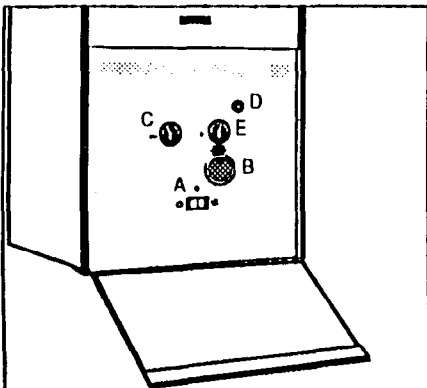
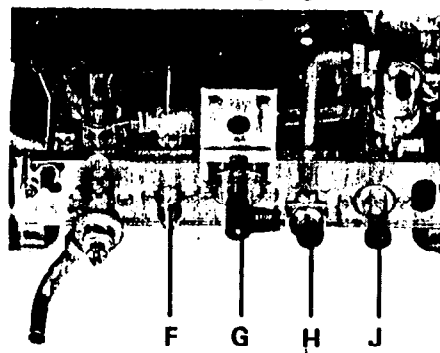

Fig. 1
Fig. 2
- 2) Turn the lever on the gas service tap to the left (G) (Fig. 2).
- 3) Set the selector switch (A) (Fig. 1) to the required position. To the left for hot water only or to the right for hot water + central heating.
- 4) Press the igniter button (D) (Fig. 1) Fully in.
- 5) If set to hot water + central heating check that the valve (J) (Fig. 2) is fully open (turn anti-clockwise).
This boiler is designed to give hot water at different temperatures and is fitted with a temperature regulator (F) (Fig. 2). This regulator is adjusted and set at the time of installation by the installer.
Set the selector switch to the centre position off (0) Turn off the gas by turning the lever (G) (Fig. 2) on the gas service tap to the right. Turn off the electricity supply.
Set the selector switch (A) (Fig. 1) to hot water only position, turn off the valve (H) (Fig. 2) under the appliance and leave electricity supply on.
- Set the boiler thermostat (B) (Fig. 1) as required depending on the desired room temperature. To increase the heat turn to "+", to reduce the heat turn to "-". The temperature gauge indicates the temperature of the water going to the radiators.
- Switch to "hot water only" and close the valve (J) (Fig. 2) on the heating flow.
PRESSURE GAUGE (C) (Fig. 1)